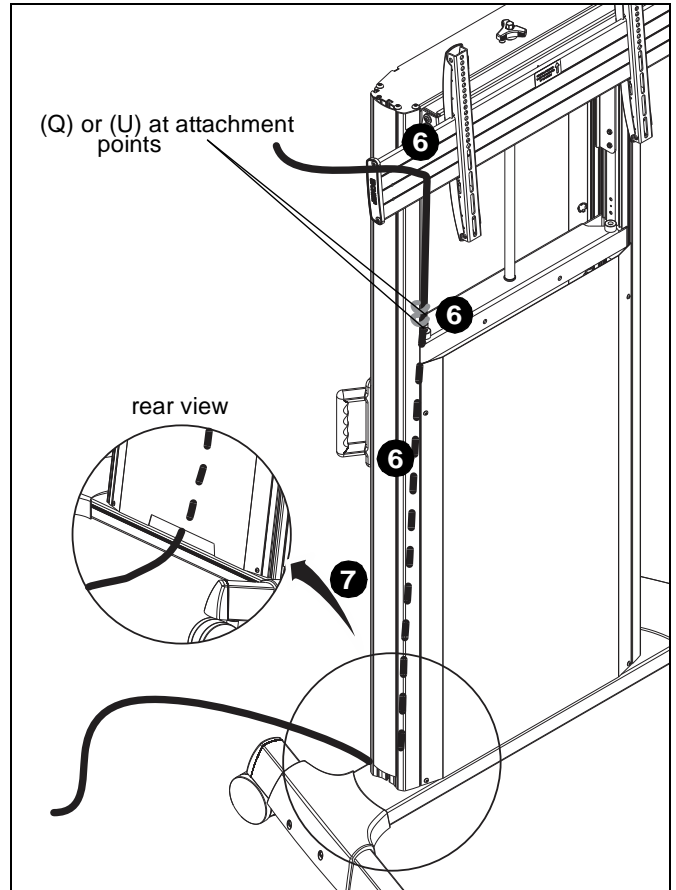

Figure 17
6. Route cables from display through inside of column assembly attaching at cable management attachment points and/or accessory bracket using cable ties (Q) or cable clips (U) as desired. (See Figure 17)
7. Route cables out through the slot on the back of the cart. (See Figure 17)